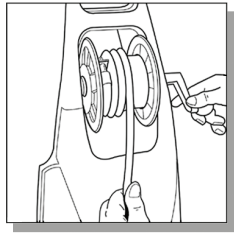
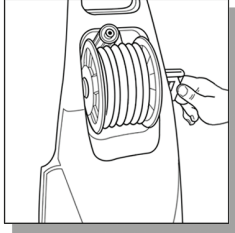

Fig. 26
Fig. 27
- The pressure hose is stored on the hose reel located above the accessory holder. With the front of the power washer facing towards you, insert the un-threaded end of the power hose into the square hole on the inner reel and begin turning the handle away from you (Fig. 26). After you have the reel turned about 1/4 turn, with the fitting inserted into the square hole, place the hose under the indentation on the side of the reel to keep it in place while winding it up (Fig. 27). When finished winding, push the handle in to lock it in place. Please remember: the hose reel is only for storing the high pressure hose. The hose must be completely removed from the hose reel each time you use the power washer.